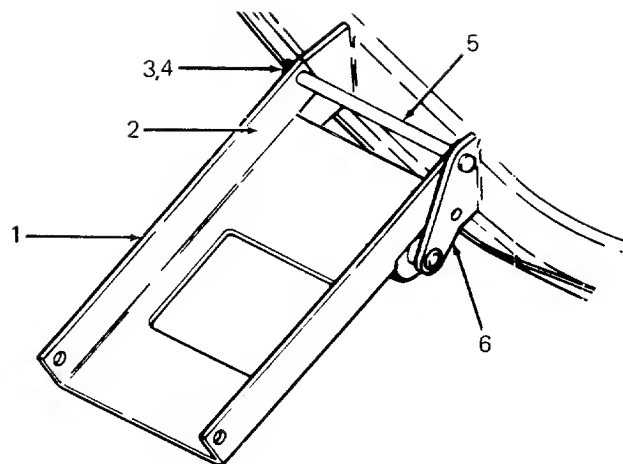

Figure 38
6. Remove the front hanger bracket from the front roller bracket as follows: Remove hairpin cotter and flat washer, then remove the deck hanger rod. (Refer to Figure 38.)